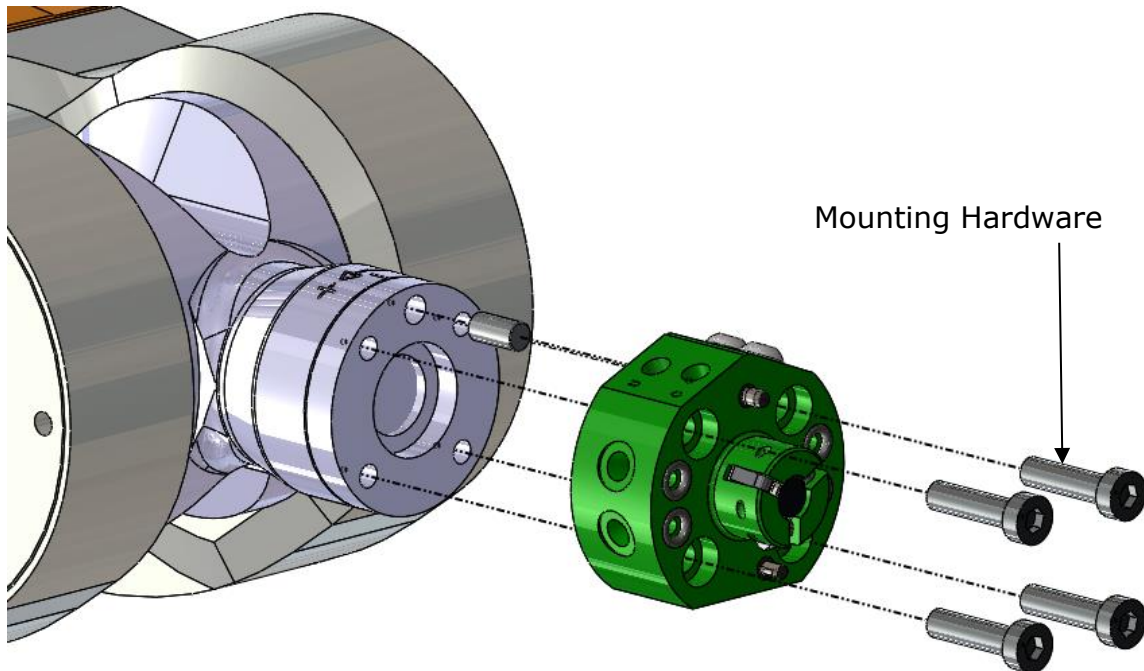

Figure 5.1-1. E31.5 Robot Side Installation w/ M5 Hardware
1. Locate the Robot Side to the manipulator mounting flange utilizing the locating boss and one (1) M5 locating dowel (Figure 5.1-1).